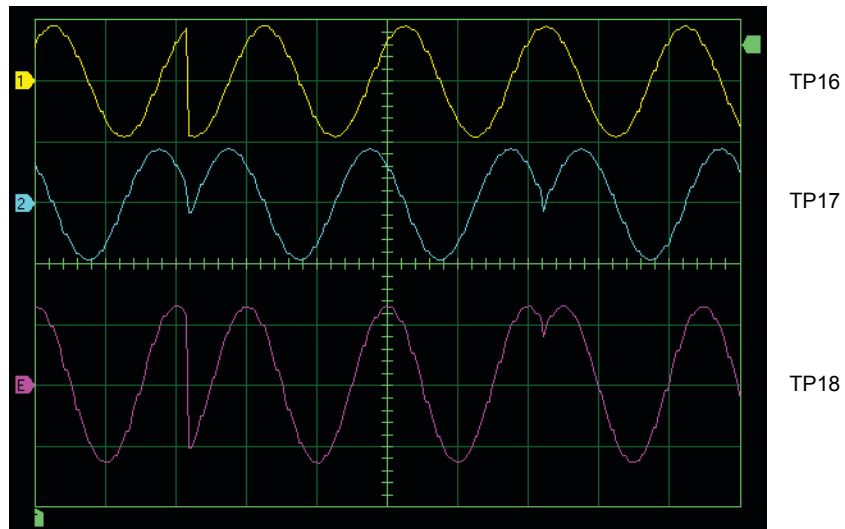

Figure 18. Summer input (BPSK) and output (QPSK) signals.
- 22. Use the Oscilloscope to observe the signals at the input and output of the summer (TP16, TP17, and TP18). Figure 18 shows an example.